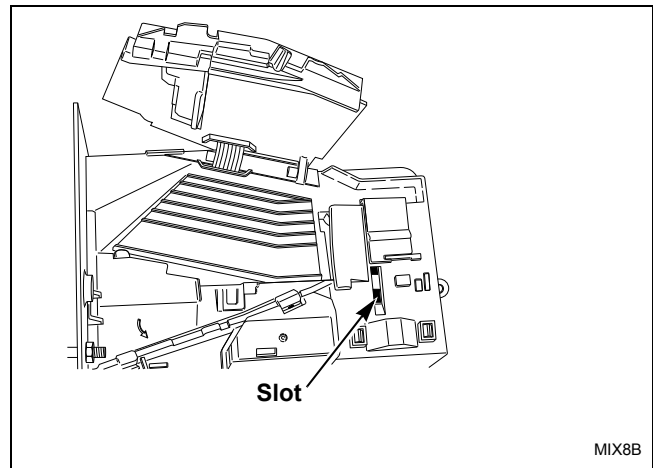

Figure 10
- (10) Attach clip to new tension spring, Part No. 209/00598/02.
(11) Place clip, installed on spring, in slot on coin drop. Refer to *Figure 10*.